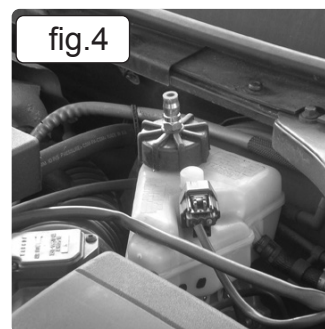

fig.4
6.1.7. Remove the cap on the vehicle's brake fluid reservoir. If the brake fluid level is not at maximum, top it up and select a suitable adaptor for the vehicle. In some cases a universal adaptor will be required, see section 6.3. Tighten the adaptor onto the master cylinder ensuring that a good seal is achieved (fig.4).